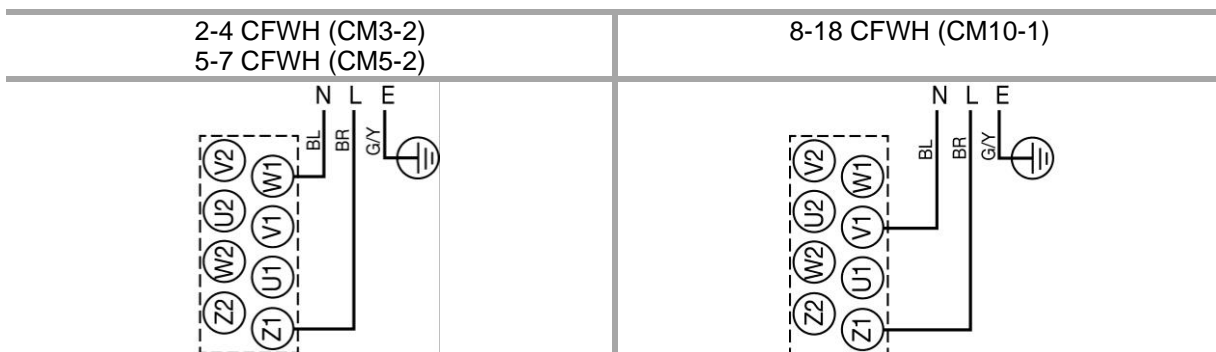

Figure 15
17. If removed, re-install pump and GPO assemblies, refer to **Figure 15** for pump wiring details